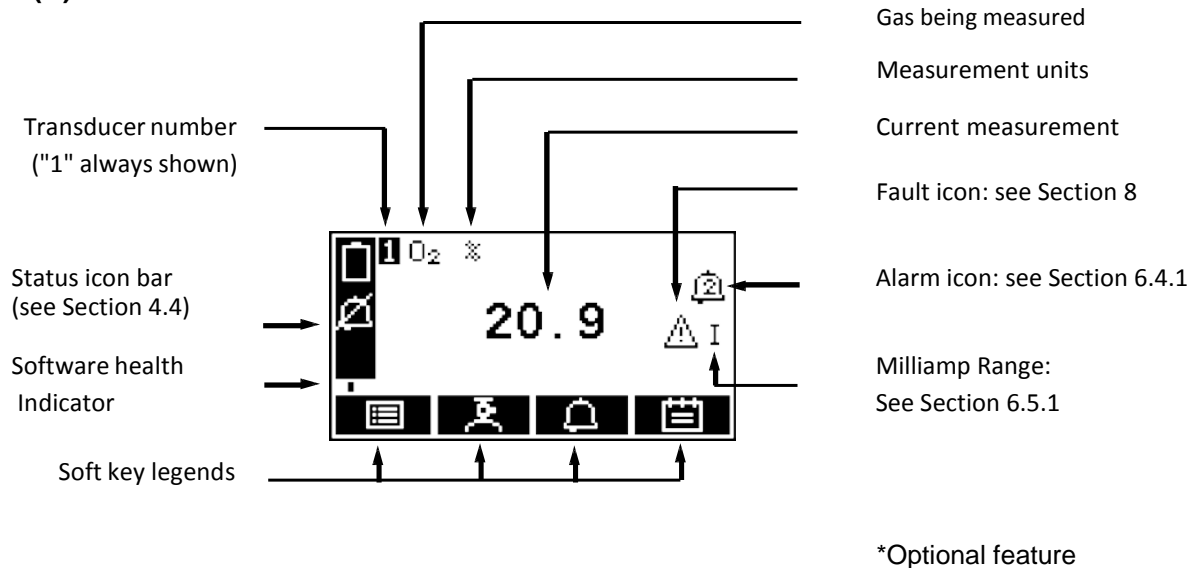

Figure 3 - The Measurement screen
- The Measurement screen is then displayed, as shown in Figure 3.
The four soft key legends at the bottom of the Measurement screen (Figure 3) correspond to the four soft keys on the front of the GAB-1700. (The first legend corresponds to the function of soft key 1, the second legend corresponds to the function of soft key 2, and so on).